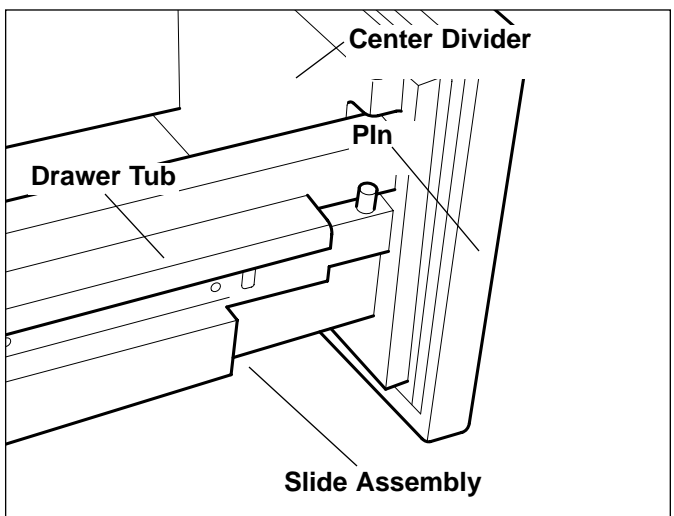

Figure 2-3. Drawer Removal
2. Drawer Removal: To remove all other drawers, pull drawer forward 6” to 10”, lift up off of the pins at front. Continue to pull drawer forward off of slide assembly (Figure 2-3).